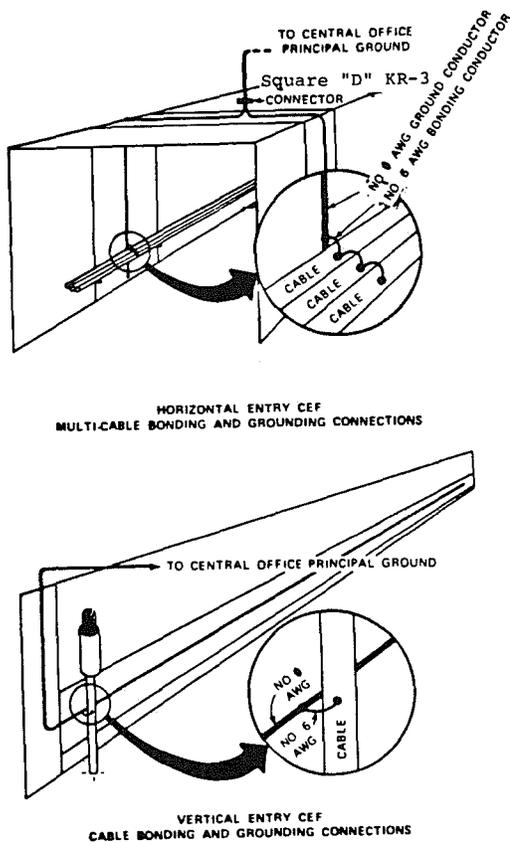

Figure 21C
4.37 When more than one cable occupies the same horizontal racking level, each cable on that level will be connected in series with a No. 6 copper conductor or equivalent bonding ribbon, which in turn is then joined to the No. 1/0 ground conductor. For vertical entry, each cable is connected to the No. 1/0 ground conductor. Figure 21C.